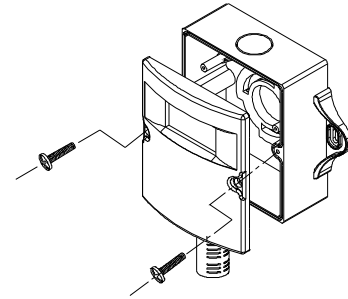

Fig.1
- ◆ Firstly, prepare a flower head screwdriver and open the screw of the transmitter housing. (see fig.1)